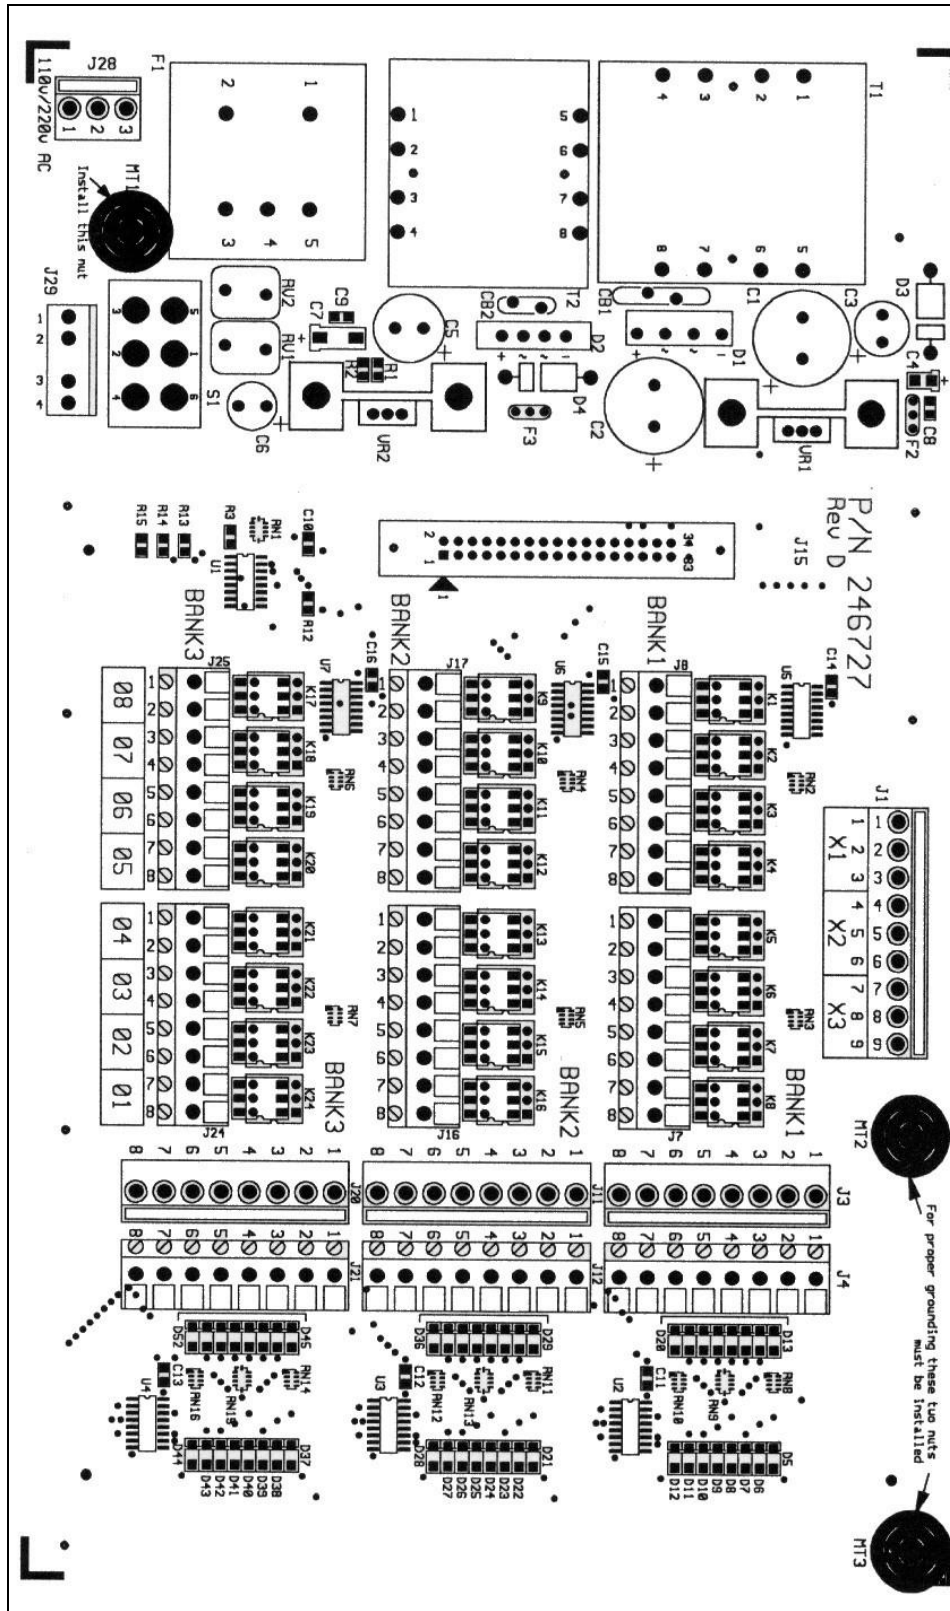

Figure 19(B) – 4 Module Mother Board
4.2.5.1 **Inputs** - After pulling remote signal wires to the alarm panel, make connections to the terminal blocks on the Mother Board (see Figure 19): J3 and J4 for Module #1; J11 and J12 for Module #2; J20 and J21 for Module #3; J5 and J6 for Module #4; J13 and J14 for Module #5; J22 and J23 for Module #6.
- 4.2.8.1 For Transmitters installed in the Back box, the Transmitters are wired to the terminal blocks starting on the left for Module #1 (see Figure 19) with the red wire to the terminal X1 position 1 and the black wire to X1 position 2. If the Transmitter has a shield wire, it is to be put in terminal X1 position 3. Repeat the above operation for each Transmitter moving to the next three terminal pins, Module #2-terminal X2, Module #3-terminal X3, etc. the right.